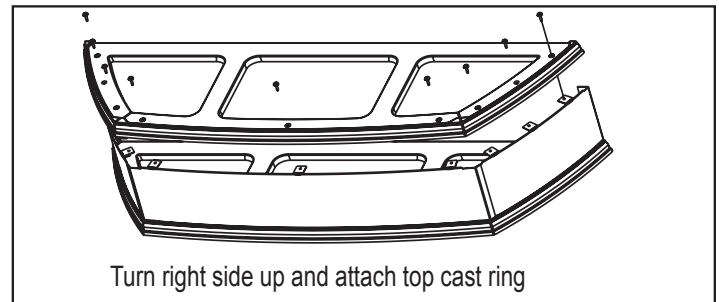

Figure 21.4
5. Now turn the cast ring right side up and attach the top cast ring . **Figure 21.4.**